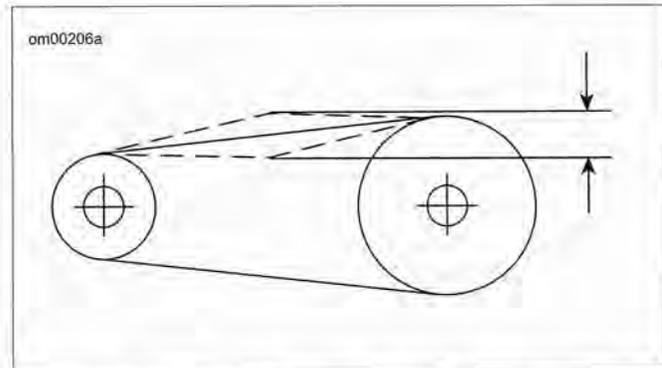

Figure 1-38. Primary Chain Freeplay
3. See Figure 1-38. Through the inspection opening, measure chain freeplay at the tightest position.